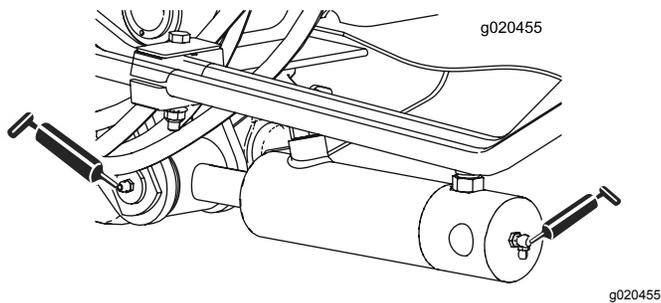

Figure 81
- 2 (each side) lift-arm-cylinder bushings (Figure 81)